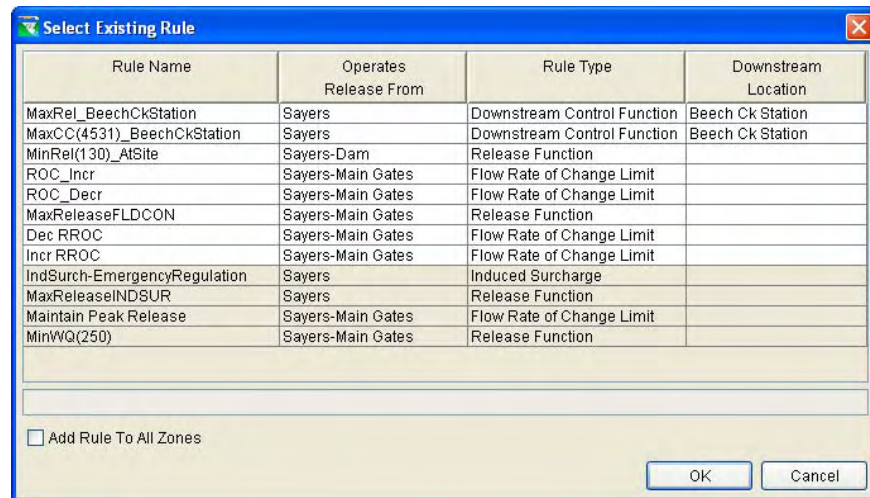

Figure 11.10 Select Existing Rule
2. Select **Use Existing** from the **Rule** menu of the Reservoir Editor or **Use Existing Rule** from the zone's shortcut menu. The **Select Existing Rule** dialog box will open (similar to Figure 11.10 which shows an example list of existing rules).